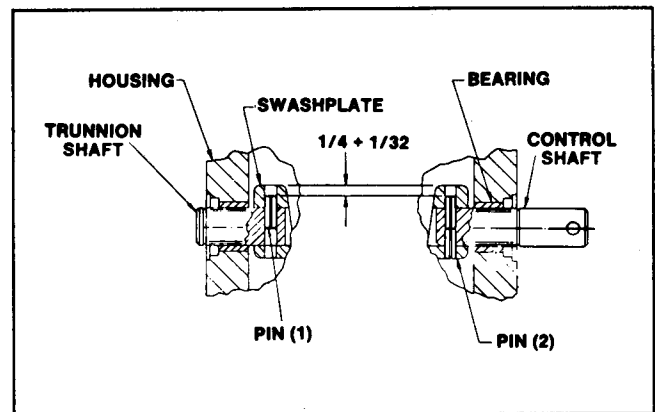

Figure 47
7. Install new spring pins through the swash plate and shafts, using two pins on the control shaft side (Fig. 47). Drive the pin into the trunnion shaft with a pin punch until the pin is 1/4 inch (6 mm) below the swash plate. To install the two pins in the control shaft, install the first pin until the second pin can be started, then drive both pins together until the last pin is 1/4 inch (6 mm) below the swash plate.